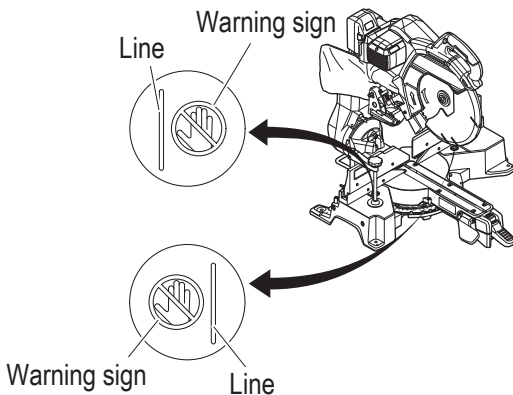

Fig. 24
- **Never place your limbs inside of the line next to warning sign while the tool is being operated (see Fig. 24). This may cause hazardous conditions.**